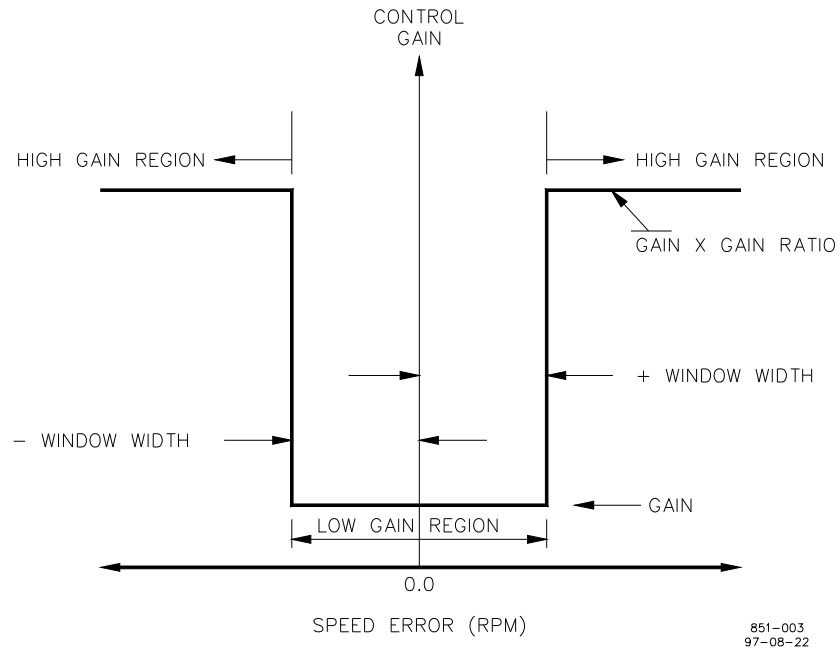

Figure 4-2. Control Gain as a Function of Speed Error
The following descriptions of each menu item apply to either set. Also see Figures 4-2, 4-3, and 4-4.
4. **GAIN RATIO** is the ratio of the Gain setting at steady state to the Gain setting during transient conditions. The Gain Ratio operates in conjunction with the Window Width and Gain adjustments by multiplying the Gain set point by the Gain Ratio when the speed error is greater than the Window Width. This makes the control dynamics fast enough to minimize engine-speed overshoot on start-up and to reduce the magnitude of speed error when loads are changing. This allows a lower gain at steady state for better stability and reduced steady-state actuator linkage movement. (See Figure 4-2.)
5. **WINDOW WIDTH** is the magnitude (in rpm) of a compensated speed error ( $E_c$ ) at which the control automatically switches to fast response. The control uses the absolute value of compensated speed error ( $E_c$ ) to make this switch. The absolute value is the difference between the speed reference ( $N_r$ ) and the compensated speed ( $N_c$ ). A Window Width too narrow will result in cycling that always factors in the Gain Ratio. (See Figure 4-2.)
13. **GAIN RATIO** is the ratio of the Gain setting at steady state to the Gain setting during transient conditions. The Gain Ratio operates in conjunction with the Window Width and Gain adjustments by multiplying the Gain set point by the Gain Ratio when the speed error is greater than the Window Width. This makes the control dynamics fast enough to minimize engine speed overshoot on start-up and to reduce the magnitude of speed errors when loads are changing. This allows a lower gain at steady state for better stability and reduced steady-state actuator linkage movement (see Figure 4-2).
14. **WINDOW WIDTH** is the magnitude (in rpm) of a compensated speed error ( $E_c$ ) at which the control automatically switches to fast response. The control uses the absolute value of the compensated speed error ( $E_c$ ) to make this switch. The absolute value is the difference between the speed reference ( $N_r$ ) and the compensated speed ( $N_c$ ). A Window Width too narrow will result in cycling that always factors in the Gain Ratio (see Figure 4-2).